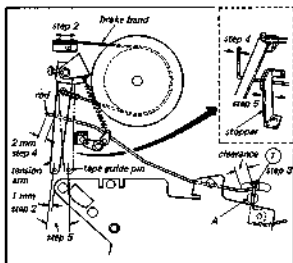

Fig. 4-7. Tension arm adjustment
- Set the Function Lever to the FORWARD position. Check the distance between the Tape Guide Pin on the Tension Arm and the extreme left edge of the drum deck as shown in Fig. 4-7. It should be about 1 mm. Swing the Brake Band as needed to obtain the correct spacing.
- Check for clearance between the hole in the chassis and item 1 shown in Fig. 4-7. If the correct clearance cannot be obtained, bend Part A with a pair of pliers to obtain the gap. (Don't bend it too much)
- Check the distance between the rod and the Tension Arm as shown in Fig. 4-7. It should be 2 mm. Bend the end of rod as needed to obtain the correct spacing.
- Set the Function Lever to the STOP position. Check the position of the Tape Guide Pin shown in Fig. 4-7. Reposition the Tension Arm Spring Bracket to obtain the correct position.